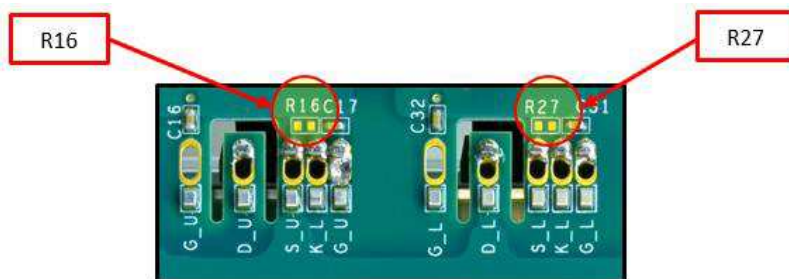

Figure 12: Location of resistors on the bottom side of PCB
The Buck-Boost Evaluation Kit comes with many test points (as shown in Figure 11 (a) and Figure 11(b)) to make it convenient for users to capture critical waveforms such as drain to source voltage (VDS), gate to source voltage (VGS), and drain current (ID). It is critical to take these measurements as close as possible to the device pins. On the bottom side of the evaluation kit’s PCB board, there is a test loop placed right next to the device pins for both TO-247-3 or TO-247-4 footprints (as shown in Figure 12). The test loop makes it convenient for the users to attach the clip-on probes to the PCB board.